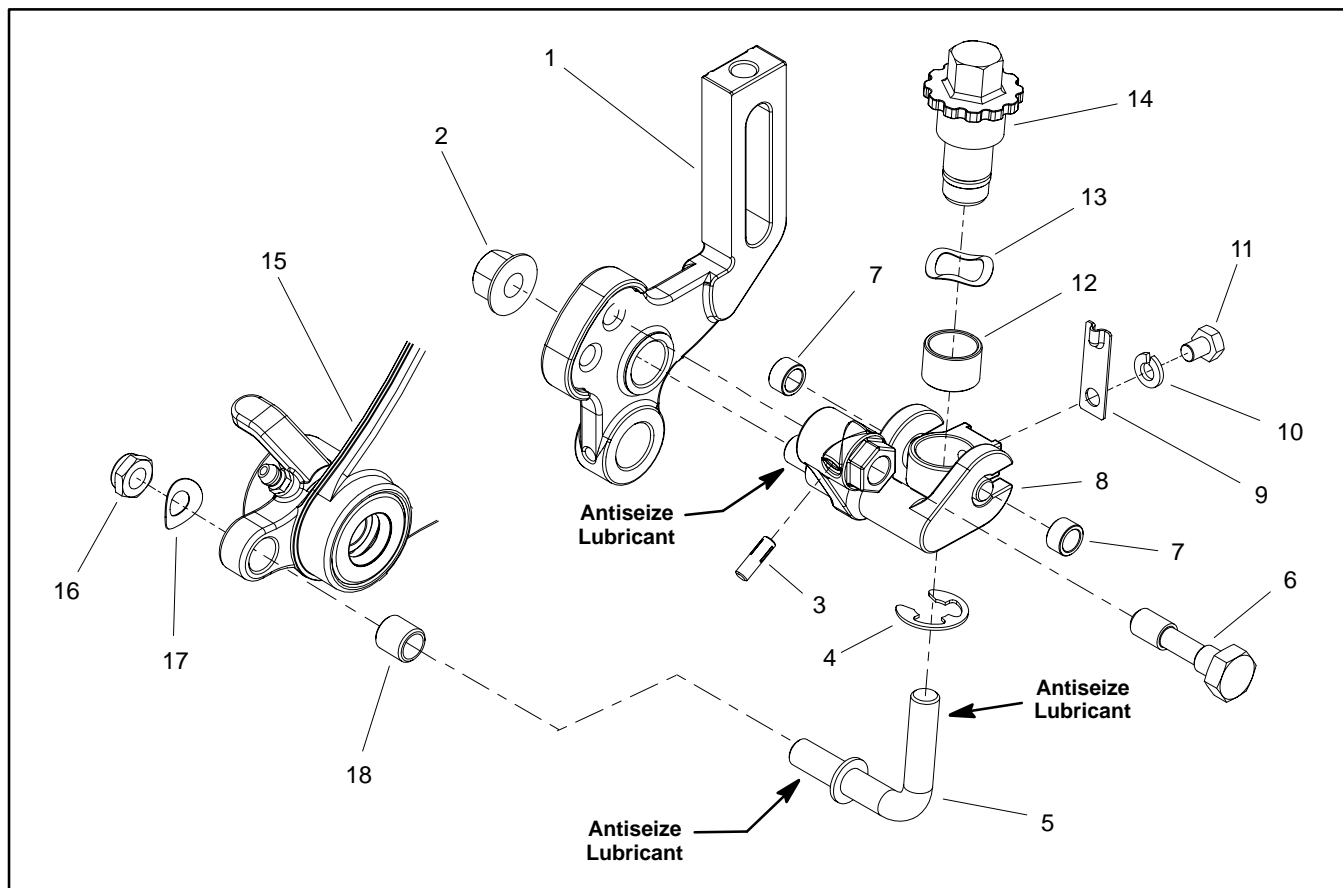

Figure 18
1. Remove flange nut (item 2) that secures lift arm to HOC groomer arm. Remove lock nut (item 16) and spring washer (item 17) that secure lift arm to side plate. Loosen lock screw (item 6) completely.
3. Disassemble lift arm using Figure 18 as a guide.
**Note:** Right and left side HOC groomer arms (item 1) and lift arm assemblies (item 8) are different; other components shown in Figure 18 are the same on both sides of cutting unit.
**Note:** Grooved pin (item 3) is used to retain lock screw (item 6) to lift arm assembly.
1. Assemble lift arm using Figure 18 as a guide.
2. Apply antiseize lubricant to threads of groomer lift rod (item 5) and lift arm assembly stud (item 8).
3. Install lift arm onto cutting unit. Secure with flange nut (item 2) and lock nut (item 16) with spring washer (item 17).
4. Secure groomer in raised or lowered position with lock screw (item 6).